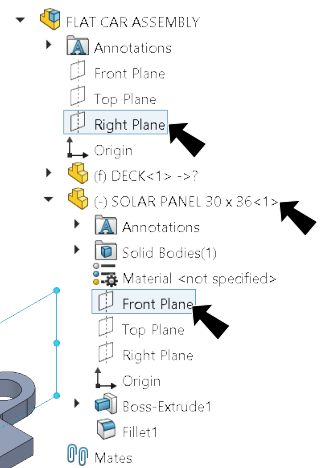

Fig. 6
Step 3. In the flyout Feature Manager design tree, expand **Solar Panel** and click **Front Plane** , **Fig. 6**.